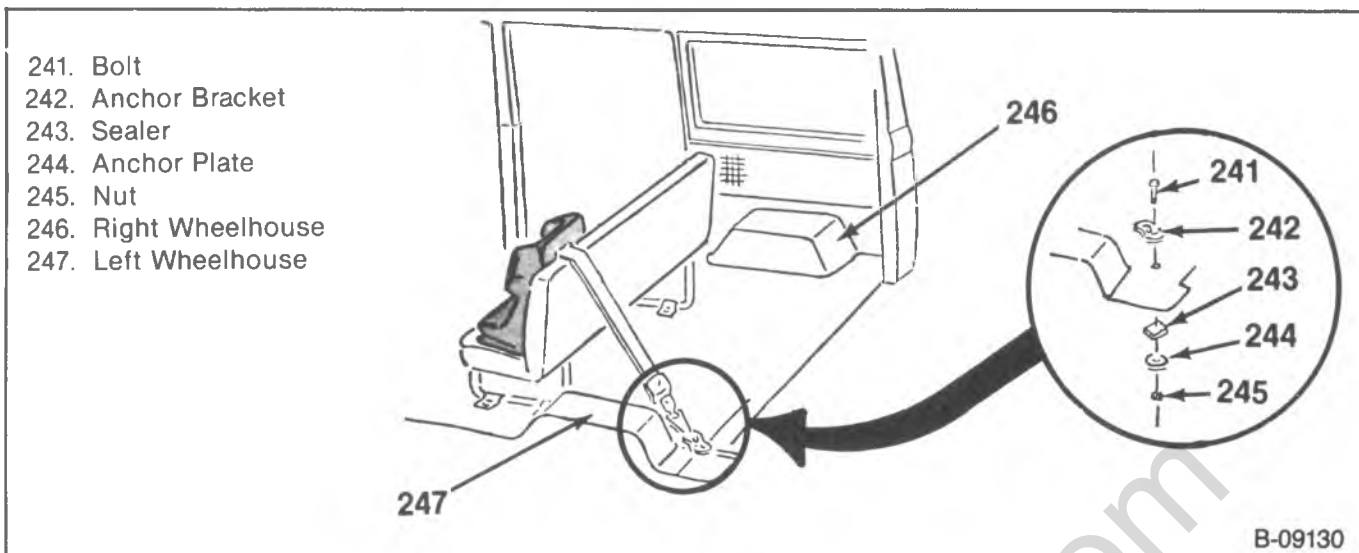

Figure 45—Third Seat Top Strap Components—Left Position
1. Determine the location for the anchor by measuring 76 mm (3-inches) rearward from the left wheelhouse. Measure 10 mm ($3/8$ -inch) inboard from the left wheelhouse. Mark the position where those measurements meet (figure 45).